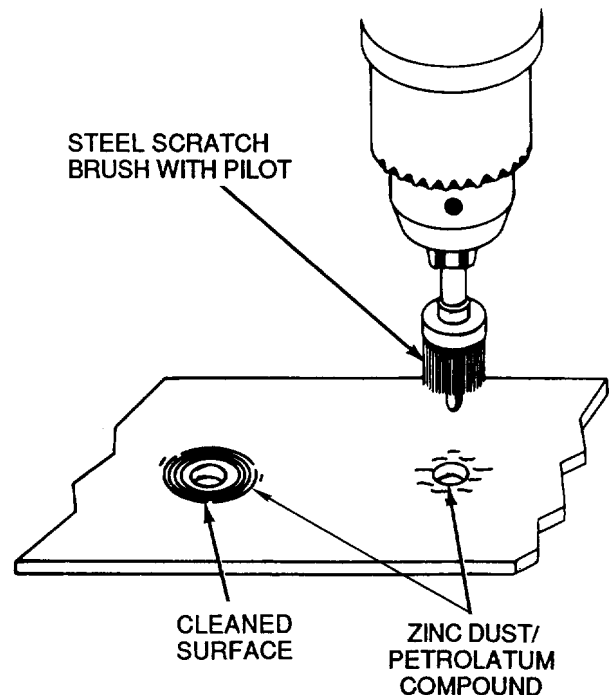

Figure 1. Unplated Aluminum Alloy Bus Bar Preparation
5. Non-soluble films may be removed by using a fine rotary stainless steel wire brush with pilot (Figure 1). They may also be removed by sanding or polishing with very fine garnet paper (silicon carbide or aluminum oxide, 320 grit or finer) or fiberglass eraser, using caution so as to not remove excessive metal.